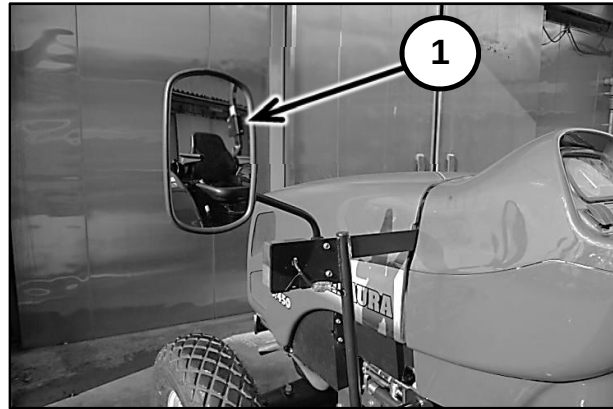

Figure 2-3
Your tractor equipped with a mirror (1) in Figure 2-3. The mirror can be moved fore/aft or outside/inside as desired.